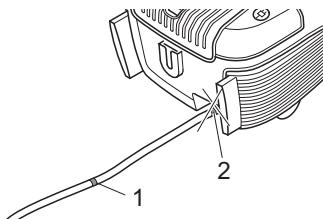

Fig. 11
2. Pull the cable holding the plug (Fig. 1/15) until the yellow mark (Fig. 11/1) is reached.
If the red mark (Fig. 11/2) is visible, then retract the cable again until it is no longer visible, ▷ *Chapter 3.2, "Switching off and retracting the power cable".* Otherwise the cable can break off. There is a risk of electric shock.